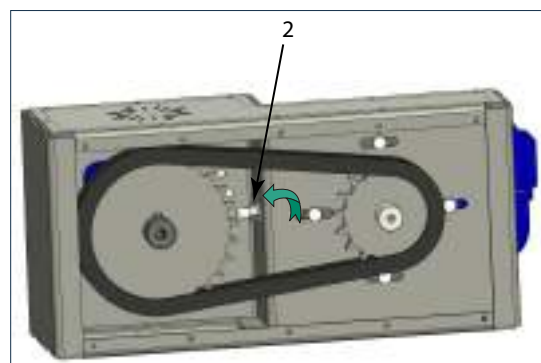

Fig. 3
- loosen the fixing bolt (2) of the axis adjustment brackets of the structure (Fig.3)